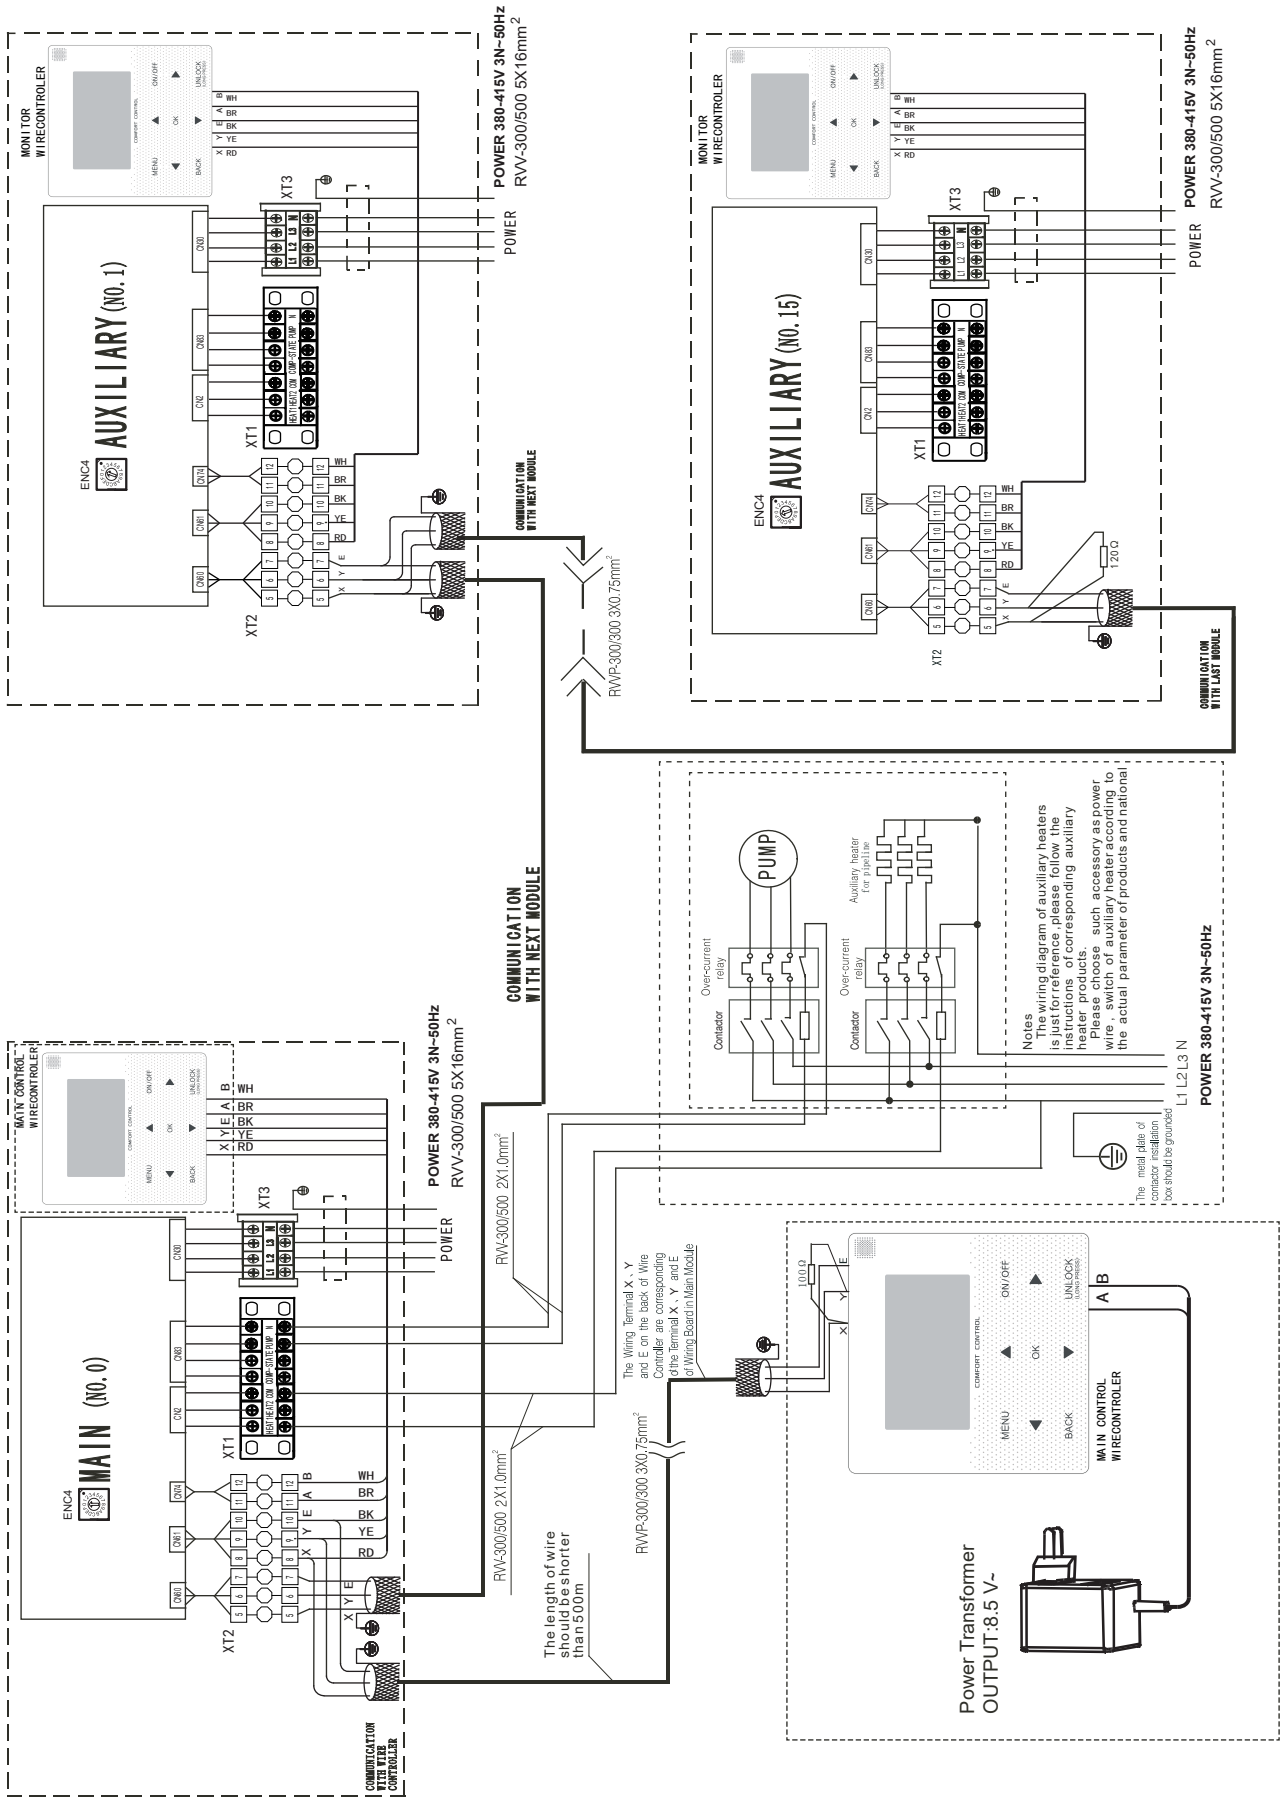

Fig. 8-23 Networking communication schematic of main unit and auxiliary unit for *MC-SU60-RN8L
h) The by-pass pipes and by-pass valves as shown in Fig.8-23 must be mounted for the heat exchanger, to facilitate cleaning of the outside system of water passage before the unit is adjusted. During maintenance, the water passage of the heat exchanger can be cut off without disturbing other heat exchangers.